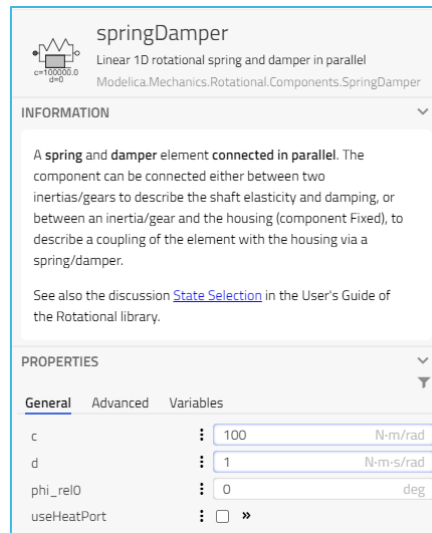

Figure 10 Parameter settings for *springDamper*
- a. Select the **springDamper** component to set its parameters (See **Figure 10**):